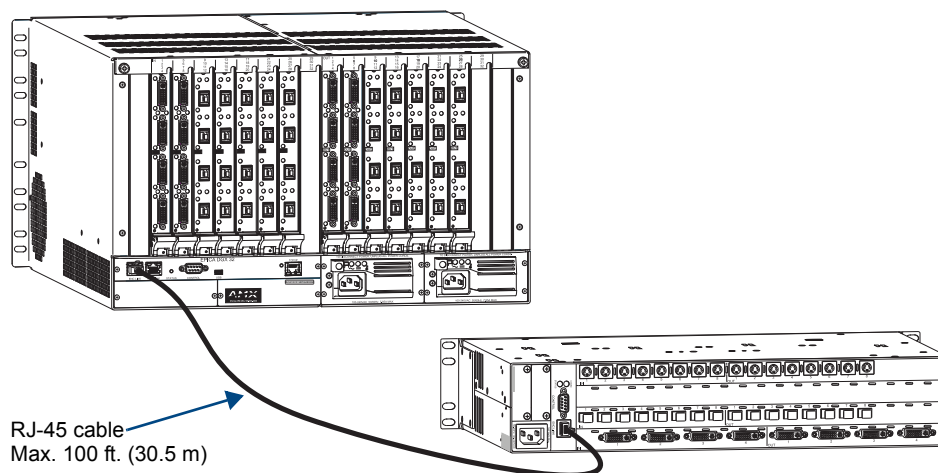

FIG. 15 Epica DGX 32 linked to an Optima using RJ-45 cable
2. Insert the connector on the other end of the RJ-45 cable into the Enc Link (RJ-45) port on the second enclosure (FIG. 15).